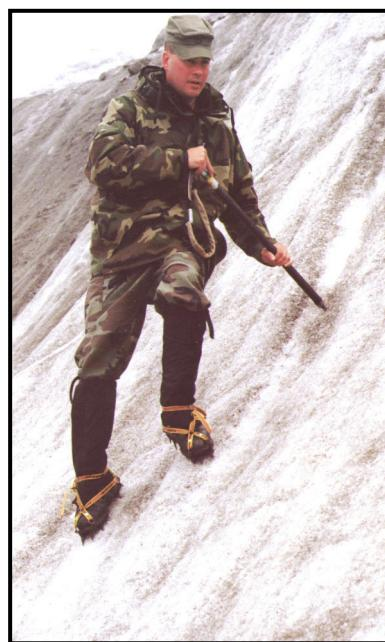

Figure 10-3. Ice ax in the cross body or port arms position.
(2) **Cross Body Position or Port Arms Position.** On steeper slopes the ax can be used in the port arms position, or cross body position (Figure 10-3). It is carried across the chest, upslope hand on the shaft, spike towards the slope. The head of the ax is held away from the slope with the pick to the rear in preparation for self-arrest. Ensure the leash is connected to the upslope hand, which allows the ax to be used in the hammer position on the upslope side of the climber. The spike, in this case, is used as an aid for maintaining balance.